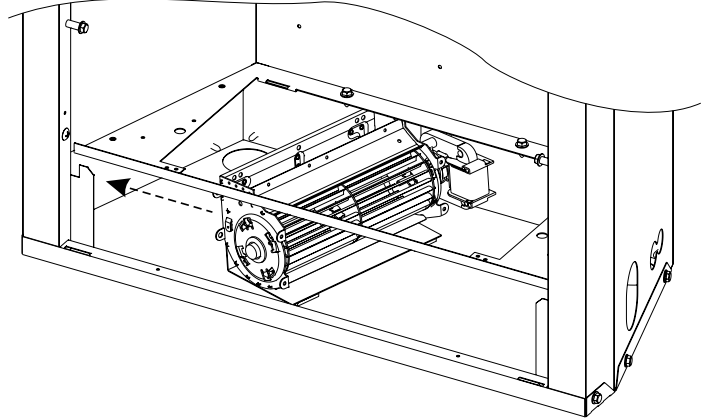

Figure 28
7. Insert blower assembly in left side of outer casing. Motor with wiring will be to the inside of the outer casing, blower chute will be facing upward. See Figure 28.